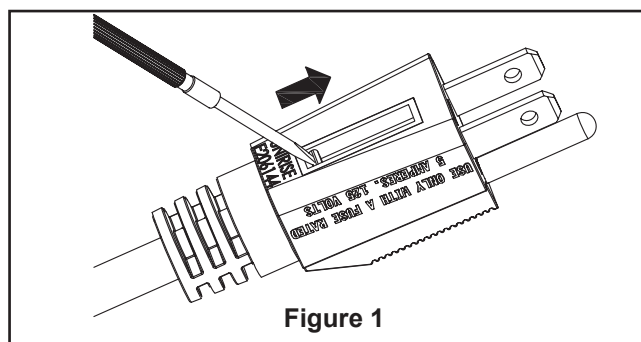

Figure 1
1. Assemble the leg to the motor assembly with 3/16"-24 x 1/2" screws. Make sure all screws securing tight the leg with motor assembly using the supplied "T" wrench. (Figure 1)
2. Slide open fuse access cover on top of attachment plug towards blades. (Figure 1)